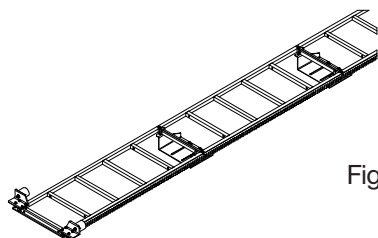

Fig. 9
5. Install the bottom mechanical stop and the bottom limit plate (see Fig. 9 and installation drawing).